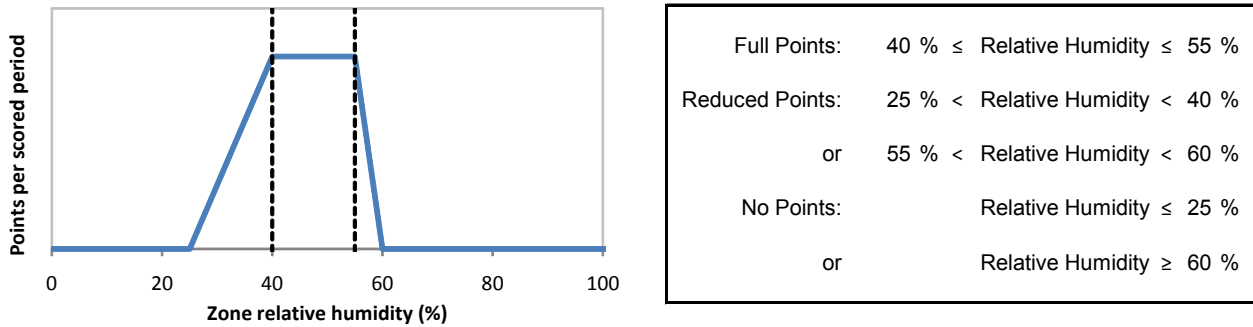

Figure 5: Scoring function for the Humidity subcontest
- Reduced points are earned if the time-averaged interior relative humidity is between 25.0% and 40.0% or between 55.0% and 60.0%. Reduced point values are scaled linearly, as shown in Figure 5.